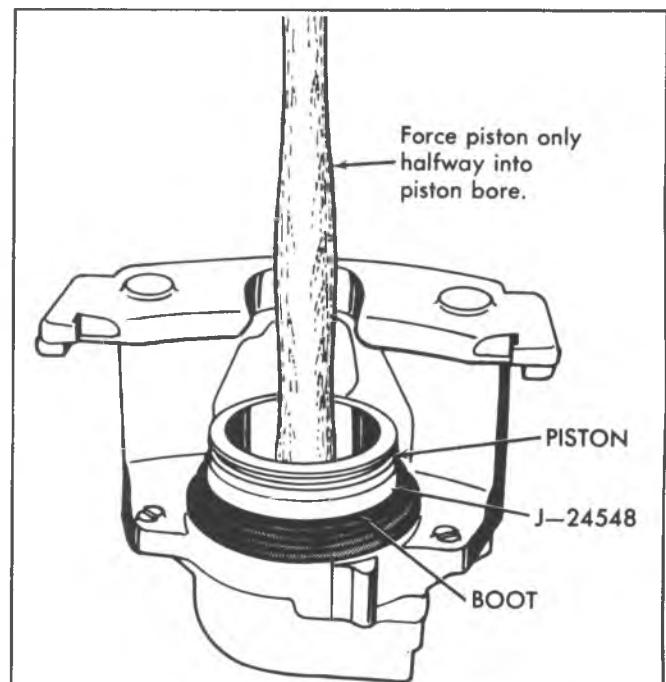

Fig. 5-42-Installing Piston in Caliper
3. Place the piston inside of Tool J-24548, force the piston halfway into the piston bore using a wood hammer handle or "C" clamp (fig. 5-42); remove Tool J-24548. Check to be sure the boot was not unseated at piston installation. Make sure the outer bead of the boot is seated in the piston outer groove.